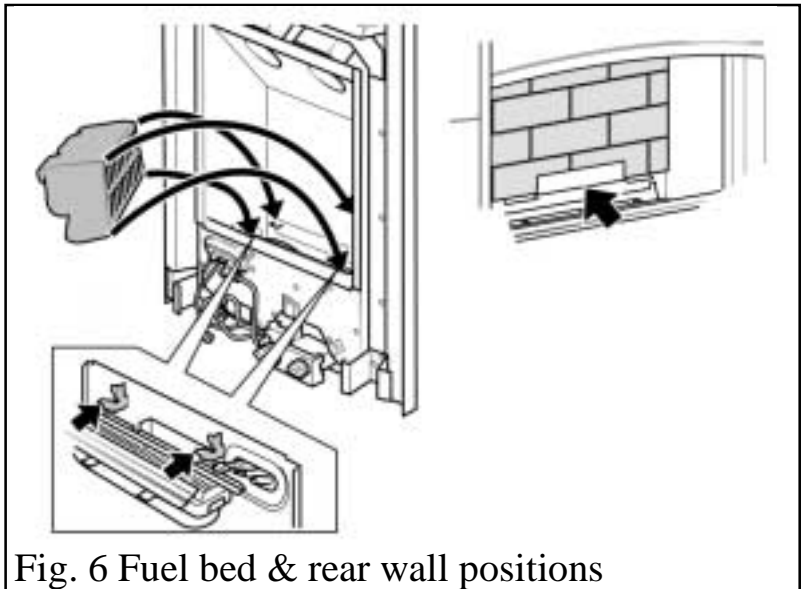

Fig. 6 Fuel bed & rear wall positions
- When refitting the fuel bed, make sure that the front of the coal locates behind the two brackets which are behind the bottom front panel of the firebox. See figure 6.